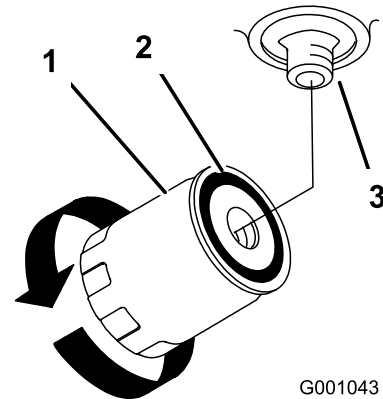

Figure 60
4. Remove the old filter, allow the oil to drain and wipe the filter adapter gasket surface clean (Figure 60).
7. Fill the hydraulic tank with hydraulic fluid until the fluid overflows the filter and then turn the oil filter clockwise until the rubber gasket contacts the filter adapter, then tighten the filter an additional 1/2 turn (Figure 60).